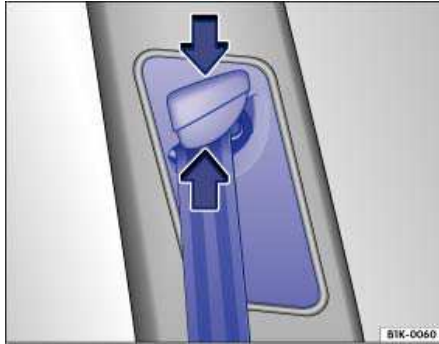

Fig. 69 Next to the front seats: Safety belt height adjuster.
- ☐ Pinch the safety belt attachment together as indicated by the arrows and hold ⇒ fig. 69.